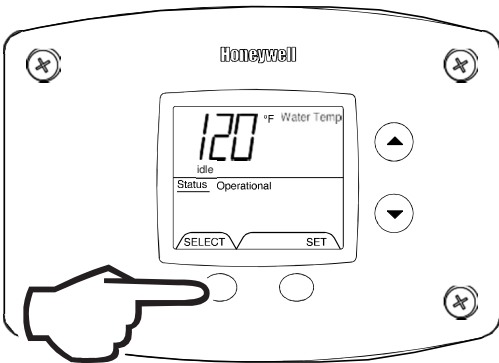

Fig. 31
2. Water Temperature Average (Displays average if there are two sensors – sensor temperature displayed if single sensor is used) (Fig. 31).